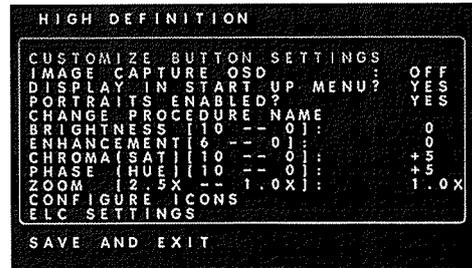

Figure 39.
1. Navigate to **IMAGE CAPTURE OSD** (Figure 39). When **IMAGE CAPTURE OSD** blinks, press **Select** to select it. The current setting will blink.